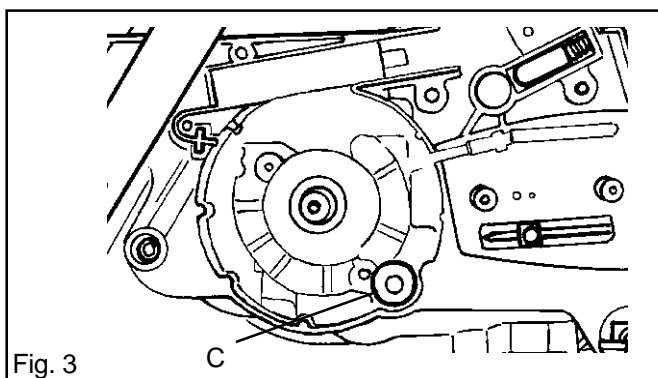

Fig. 3
6. Use pointed pliers to pull free the suction pipe (C) and sieve. See fig. 3.